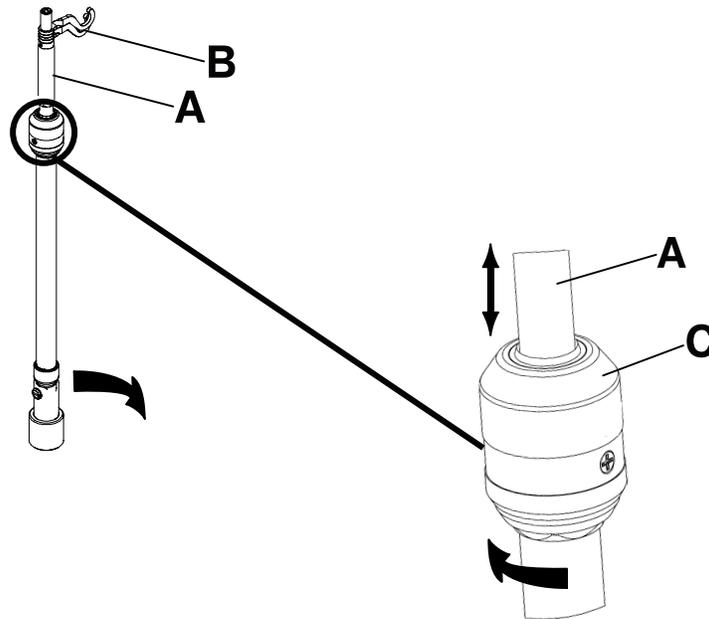

Figure 72: Operating the IV pole
3. To raise the height of the pole, pull up on the telescoping portion (A) until it locks into place at its fully raised position (Figure 72 on page 76).
4. Rotate the IV hangers to the desired position and hang the IV bags (B) (Figure 72 on page 76).
5. To lower the IV pole, turn the latch (C) until the telescoping portion lowers (Figure 72 on page 76).